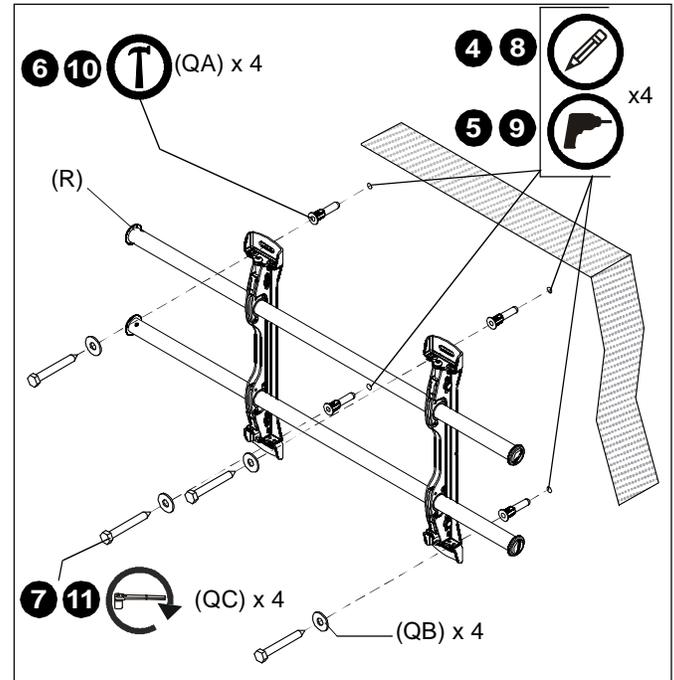

Figure 4
2. Line up the notches on mount (R) with center of screen marking to determine vertical center. (See Figure 4)
3. Measure up 7-1/2" (190.5mm) from the center point to mark location of the upper mounting slots. (See Figure 4)
4. Using a level, mark the wall through both upper mounting slots. (See Figure 4)
6. Install an anchor (QA) into each upper pilot hole using a hammer, making sure that the anchor is flush with the wall.
7. Use two 5/16 x 2-1/2" lag bolts (QC) and two 5/16" flat washers (QB) to attach top of mount (R) to anchors in wall.
8. Mark the attachment points for the lower mounting slots. (See Figure 4)
9. Drill one pilot hole at each marking for lower mounting holes. (See Figure 4)
10. Install an anchor (QA) into each lower pilot hole using a hammer. (See Figure 4)
11. Use two 5/16 x 2-1/2" lag bolts (QC) and two 5/16" flat washers (QB) to attach the mount to the wall through the lower mounting holes. (See Figure 4)